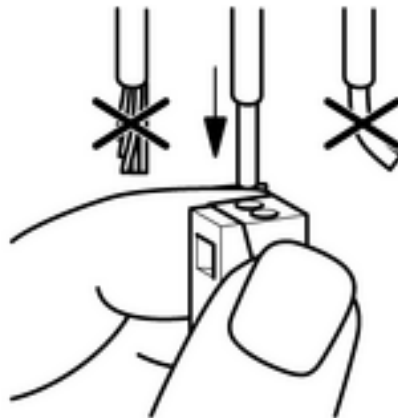

Figure 10: Connection of the single-stranded cable
- Push the single-stranded cable into the round opening on the installation side up to the stop (Figure 10).